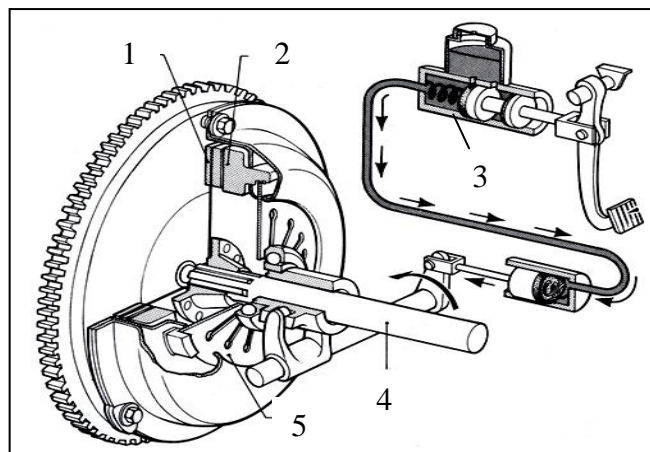

Figure 1. Hydraulic clutch linkage
c) By referring to **Figure 1**, determine the entire parts that are numbered,